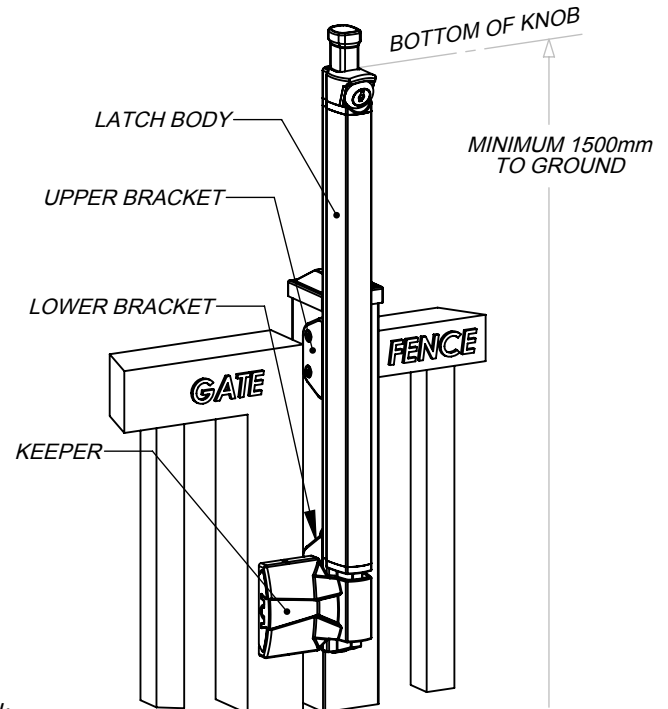
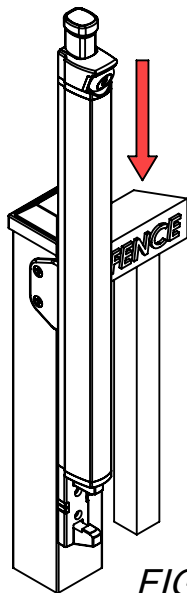

FIG. 1
FIG. 3
1. Slide the Latch Body down over the Upper Bracket (Fig. 3). Use a measuring device to locate the Top of the Latch at the PROPER HEIGHT (Fig. 1) "REFER TO ALL LOCAL BUILDING CODES"